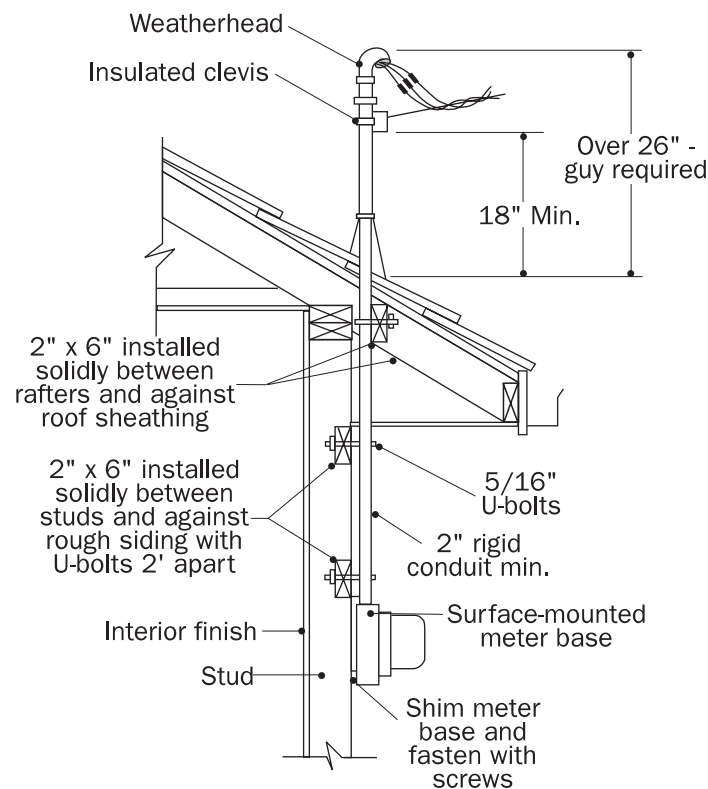

Figure 14.
- Surface mounted (see Figure 14)